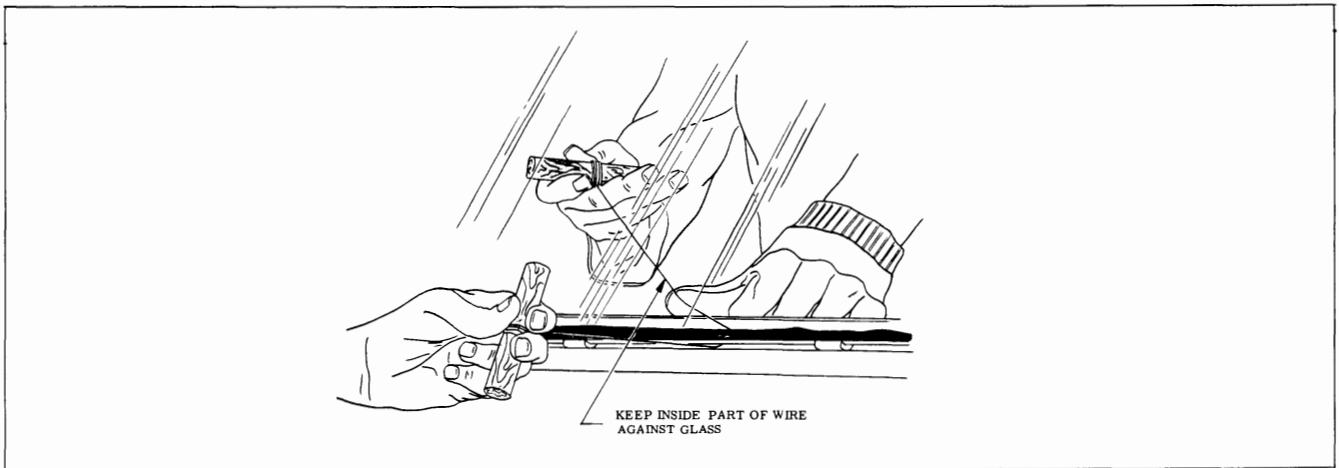

Fig. 11-5 Removing Glass
6. With aid of helper, carefully cut (pull steel wire) through caulking material, up side of windshield, across top, down opposite side and across bottom of windshield (Fig. 11-5). Make sure inside wire is held close to plane of glass to prevent cutting an excessive amount of adhesive caulking material from opening. This can be accomplished by holding inside wire close to plane of glass with one hand while pulling wire with other hand. Keep tension on wire throughout cutting operation to prevent kinks in wire.
6. With aid of helper, carefully cut (pull steel wire) through caulking material, up side of windshield, across top, down opposite side and across bottom of windshield (Fig. 11-5). To facilitate cutting through rubber spacers, use a sawing motion with steel wire. Avoid contact of steel music wire with instrument panel and windshield pillars by keeping inside wire close to plane of glass. Keep tension on wire throughout cutting operation to prevent kinks in wire.